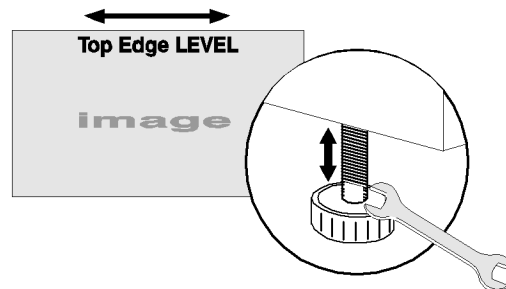

Figure 2-35 Level the Top Edge
4. **RE-CHECK SIDE-TO-SIDE LEVELING:** With a good test pattern on screen, double-check projector leveling (refer to **Figure 2-4**) so that the top edge of the image is parallel to the top edge of the screen. Refer to **Figure 2-35**.